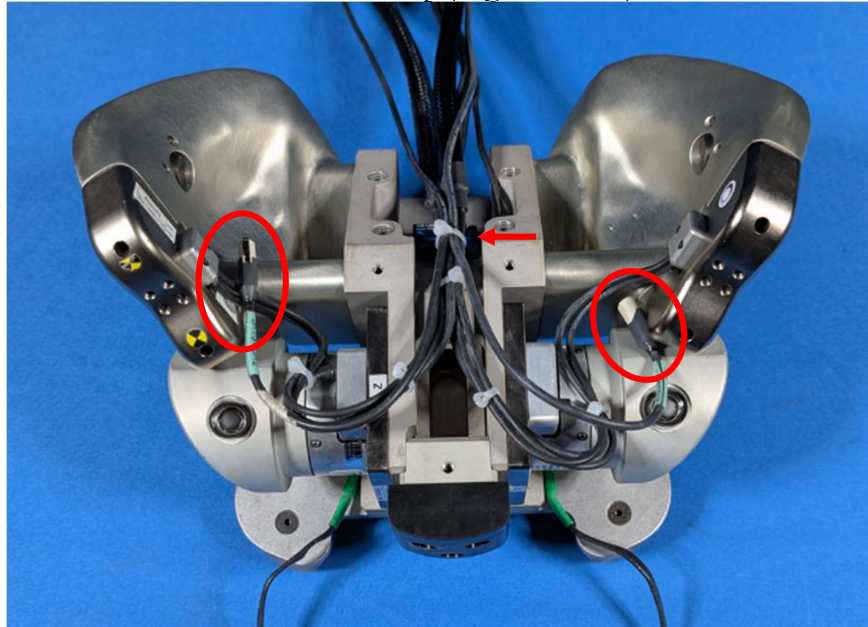

Figure 13-25. Abdomen pressure sensor wires added to the central instrumentation bundle
13.4.3.3 Add the two abdomen-pressure sensor wires (with connectors) into the central instrumentation bundle and secure with a tie wrap (Figure 13-25).